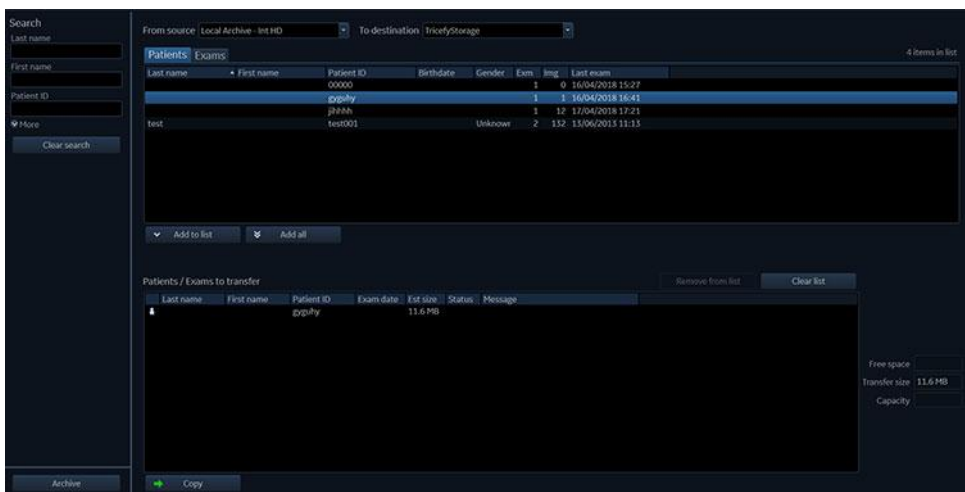

Figure 10-48. The Transfer screen
The *Transfer screen* is displayed (Figure 10-48)
4. Press **Copy** (Figure 10-48). The exam data is sent to the Tricify website (https://tricify4.com/users/sign_in).